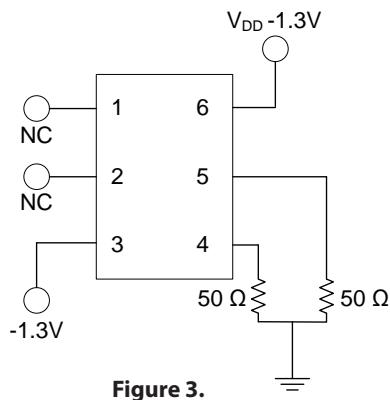
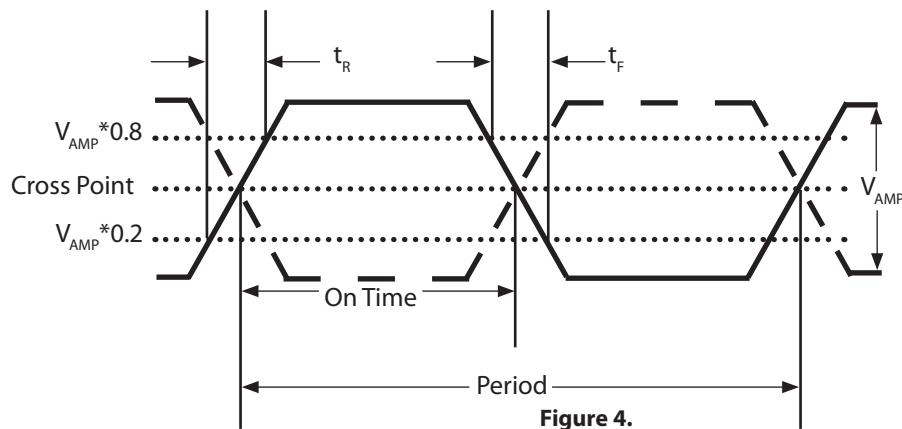

Figure 3.
Figure 4.
3. Figure 3 defines the test circuit and Figure 4 defines these parameters.
3. Figure 5 defines these parameters and Figure 4 defines the test circuit.